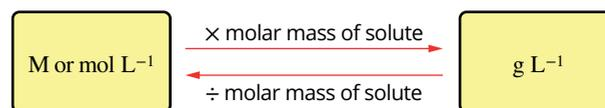

FIGURE 13.2.1 The relationship for conversions between mol L⁻¹ and g L⁻¹
Figure 13.2.1 shows a useful relationship for conversion between the two concentration units most often used in volumetric analysis, mol L⁻¹ (M) and g L⁻¹.